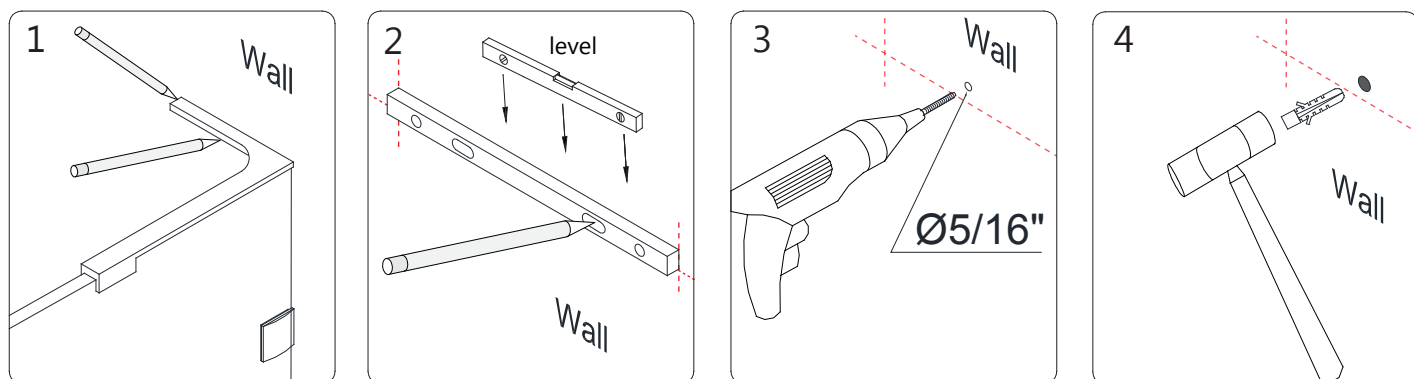

Fig 9
9. Position the **L-Bracket Assembly (#35.3)** onto the **Stationary Glass (#11)** as shown and mark its position. Remove the **Wall Plate (#35.6)** from the **L-Bracket**. Position the **Wall Plate (#35.6)** on the marks on the wall. Check for level and mark the holes on the wall for drilling through the wider, untapped holes (**Fig 9.2**). Drill two **Ø5/16" (8mm)** holes and insert the **Ø5/16" Wall Anchors (#13)**. (**Fig 9**)